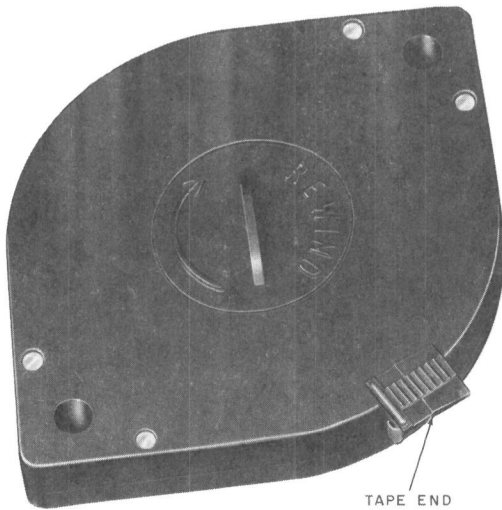
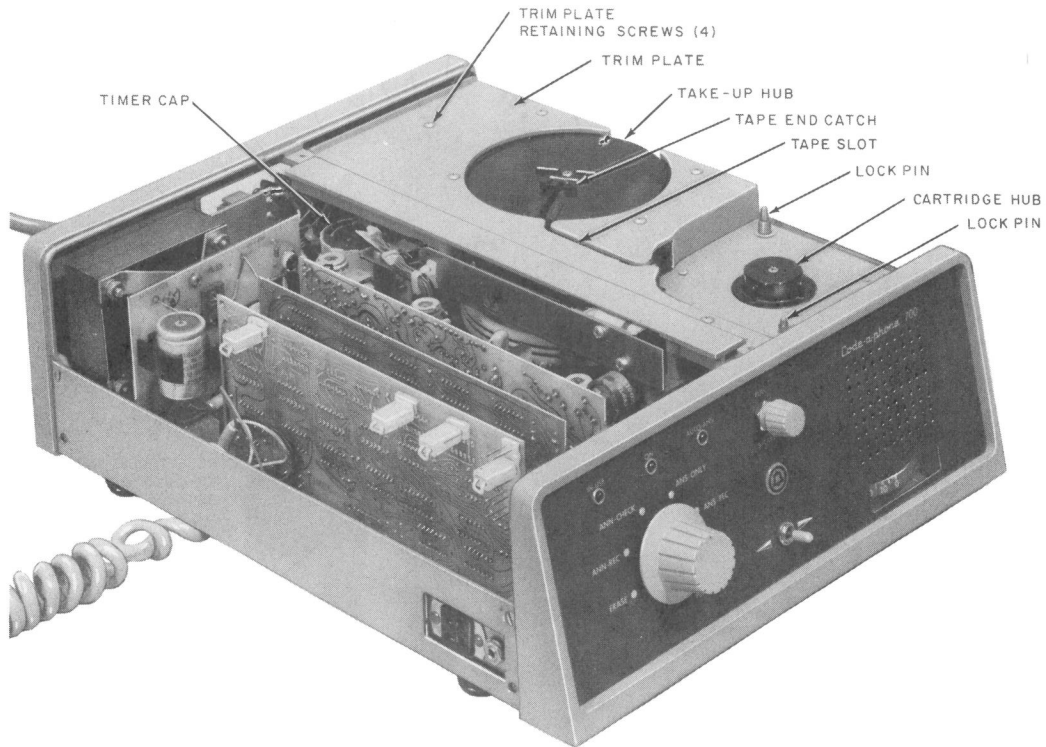
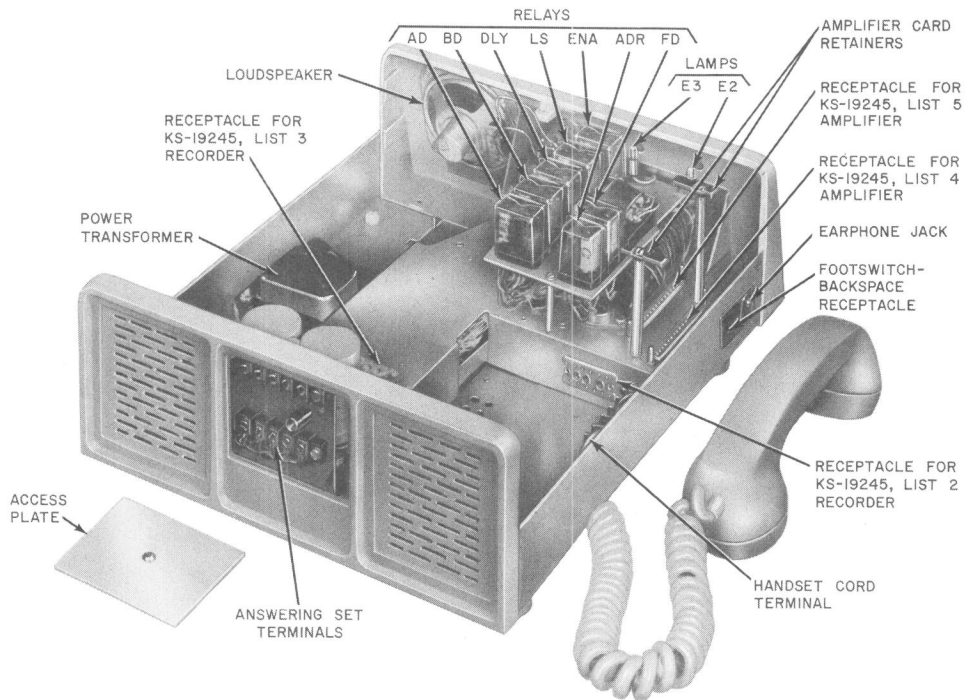

Fig. 9—KS-19245, List 6 Cartridge
Fig. 24—KS-19245, List 1 (MD) Telephone Answering Set—Cover and Components Removed
Fig. 25—KS-19245, List 13 (MD) and List 24 Telephone Answering Set—Cover Removed
- (e) The KS-19245, List 6 Cartridge (Fig. 9) provides a 1/4-inch wide plastic base magnetic recording tape with a capacity for 2 hours of incoming message recording time.
- (1) Set function selector to OFF.
- (2) Place cartridge (Fig. 9) over cartridge lock pins and hub (Fig. 25) and press down into place.
- (3) Slide tape end (Fig. 9) through tape slot (Fig. 25) and into slot of take-up reel and lock into place. Make certain, by listening for a snap, that both the left and right sides of the tape end are locked in place.
4.14 Cartridge Removal (Fig. 25).
- (2) List 1 set only.
- (a) Loosen amplifier board retainers (2) (Fig. 24).
- (3) Lists 13 and 24 sets only.
- (a) Remove the four trimplate retaining screws (Fig. 25).